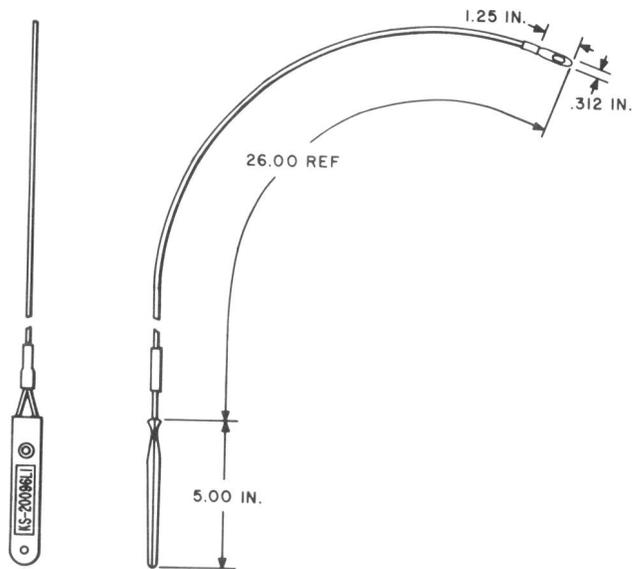

Fig. 5—KS-20096 L1 Needle
**3.04** The upper wire trough is accessible through a wiring channel at the top rear of each vertical trough. Jumpers can be passed through this channel by using a KS-20096 L1 wiring needle, (Fig. 5). The needle is passed through the wiring channel into the upper trough where the end of the jumper is attached to the eye of the needle. By withdrawing the needle, the jumper is pulled through the wiring channel into the vertical trough. This procedure is used on both ends of the jumper wire.